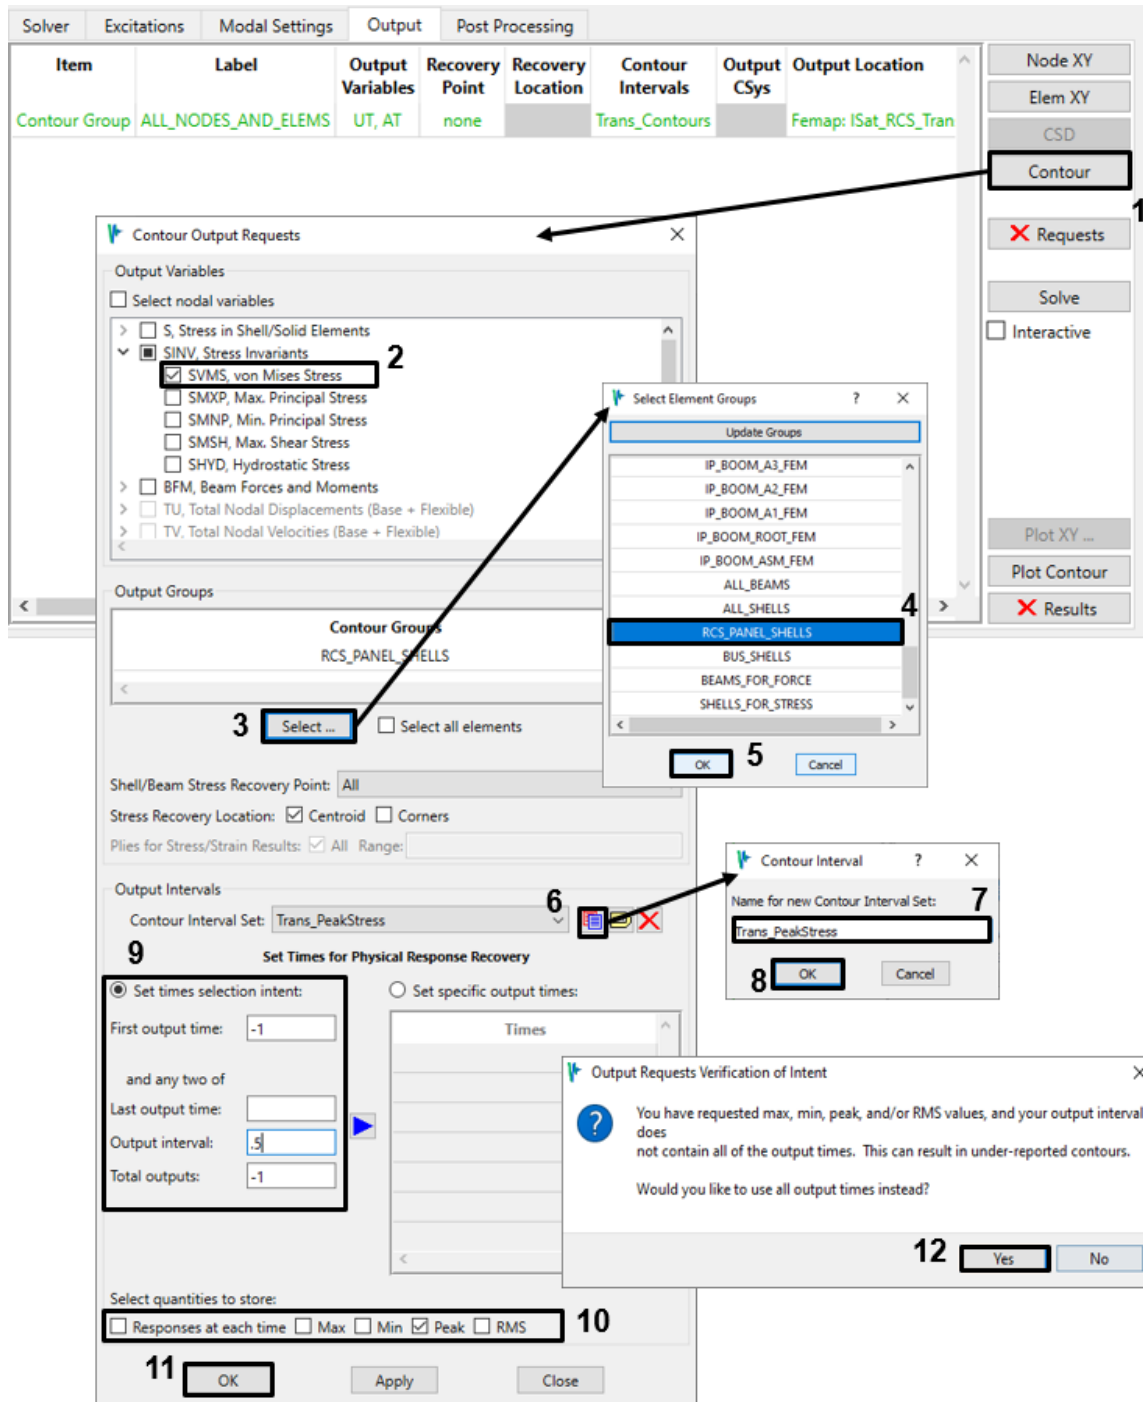

Figure 4-102. Request peak values of von Mises stress in the RCS mounting panels.
9. Create another contour request. This time ask for von Mises stress in the RCS mounting panels, but request only the peak value found in each element over the same time steps used for the displacements. You can create the new interval definition by copying the first one and then changing the settings of the **Select quantities to store** toggles (Figure 4-102). Click “Yes” to close the “Output Requests Verification of Intent” Window.